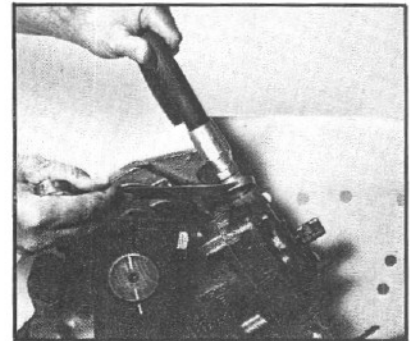

Figure 19
- 2.2 Remove and plug the return line (FIG. 19).